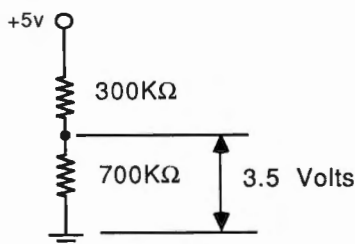

Figure 4.5
The two-step method for deriving the midpoint voltage using two different resistors (as illustrated in Fig. 4-5) comes directly from Ohm's Law: Volts = Current X Resistance. First, calculate the total current running through these resistors:
2) The photo cell will be used as the top resistor in a voltage divider as pictured in Fig. 4-5. In this way, the change in resistance will directly affect the voltage appearing at the midpoint. A value of the lower resistor that will cause the greatest voltage swing for the measured resistance values must now be calculated. The formula for the voltage swing is: